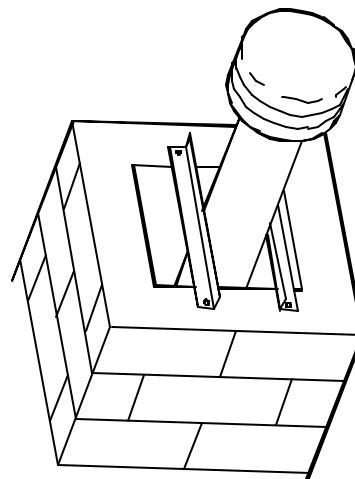

Figure 16. Supporting Type B Vent Liner.
**WARNING:** Provide support when using a Type B vent liner in masonry chimney. Maintain at least a 1 inch clearance on all sides to reduce possibility of condensate in vent. Condensate may cause vent to deteriorate allowing combustion products to collect in building, which could result in injury or death. See Figure 16.